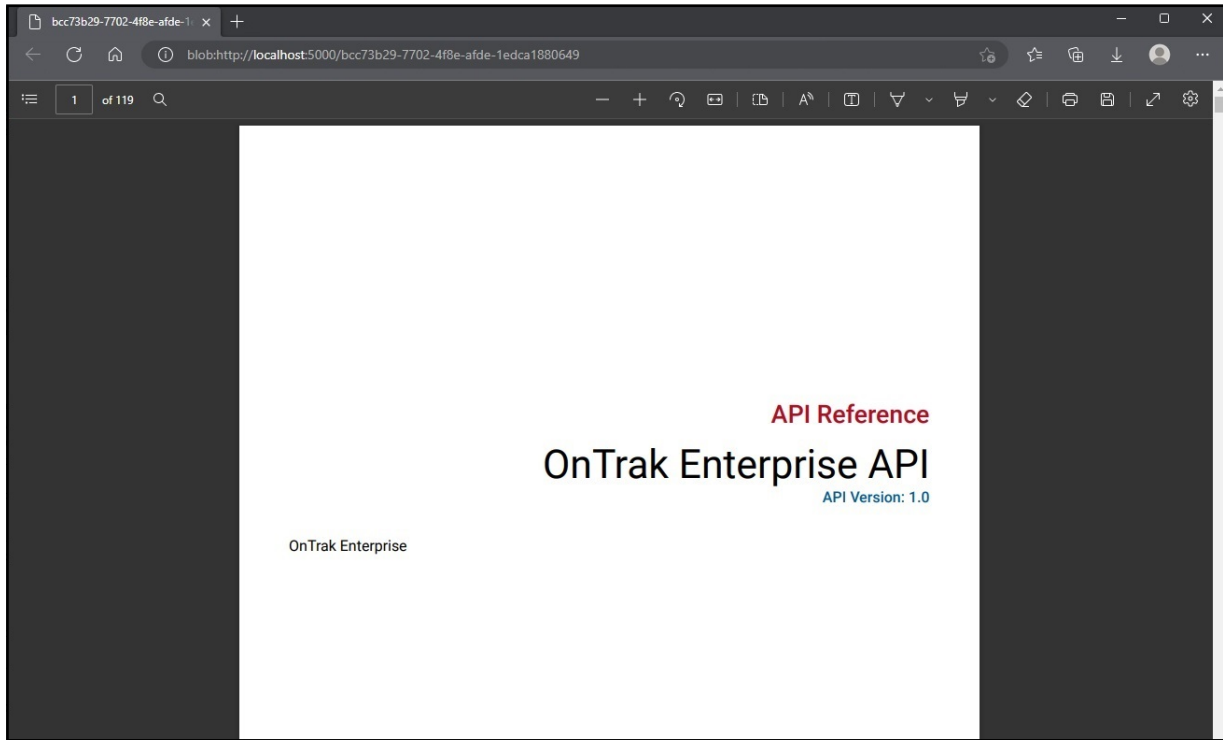

Figure 13-5. API Document Opened In Internet Browser
5. Review the API documentation (see Figure 13-5 on page 170).